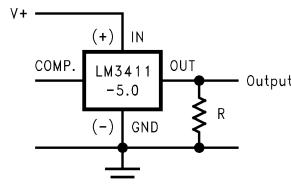

Figure 34. Voltage Detector
Perhaps one of the simplest applications for the LM3411 is the voltage detector circuit shown in Figure 34. The OUT pin is low when the input voltage is less than V_{REG} . When the V(IN) pin rises above V_{REG} , the OUT pin is pulled high by the internal NPN output resistor.